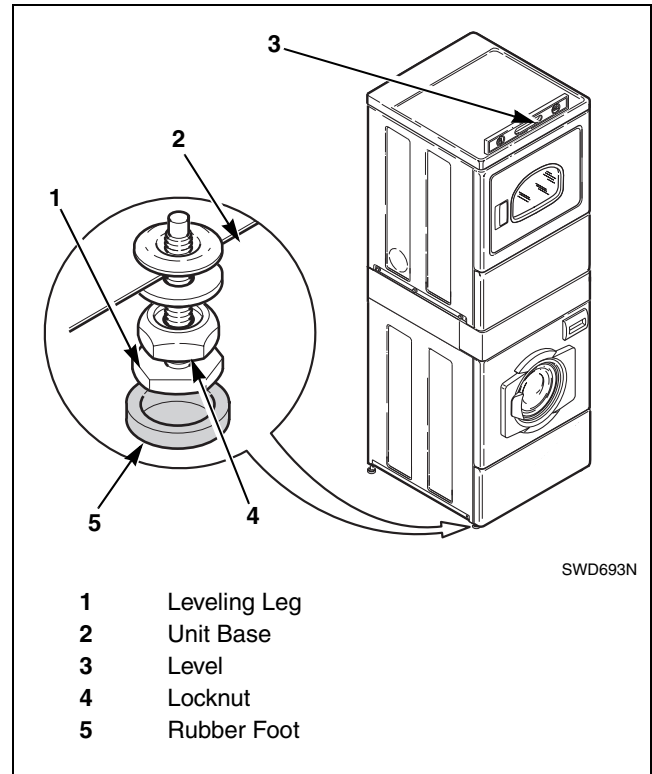

Figure 9
**NOTE: Level must rest on raised portion of top panel. Refer to *Figure 9*.**